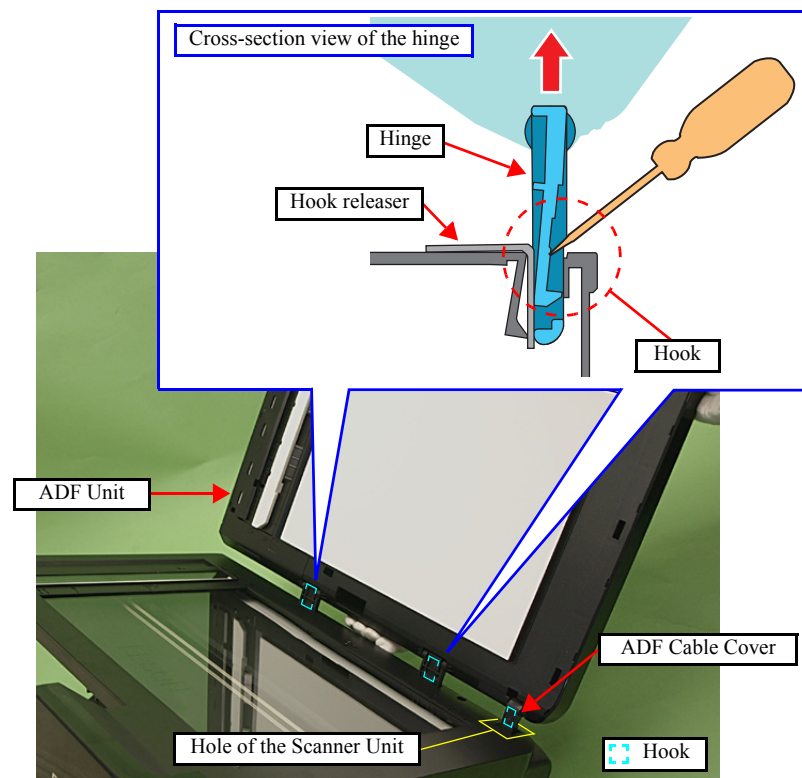

Figure 8-6. Removing the ADF Unit (3)
7. With the hook releasers (x2) inserted, hold the center of the ADF Unit and release the hooks (x2) of the hinges and hook (x1) of the ADF Cable Cover from the rear side of the printer using a flathead screwdriver or the like. (See Fig. 8-6.)
- To confirm the ADF Unit is properly secured after installing the ADF Unit without the hook releasers attached, make sure the hinges of the ADF Unit will not come off even if they are unhooked from the rear of the printer. (See Fig. 8-6.)